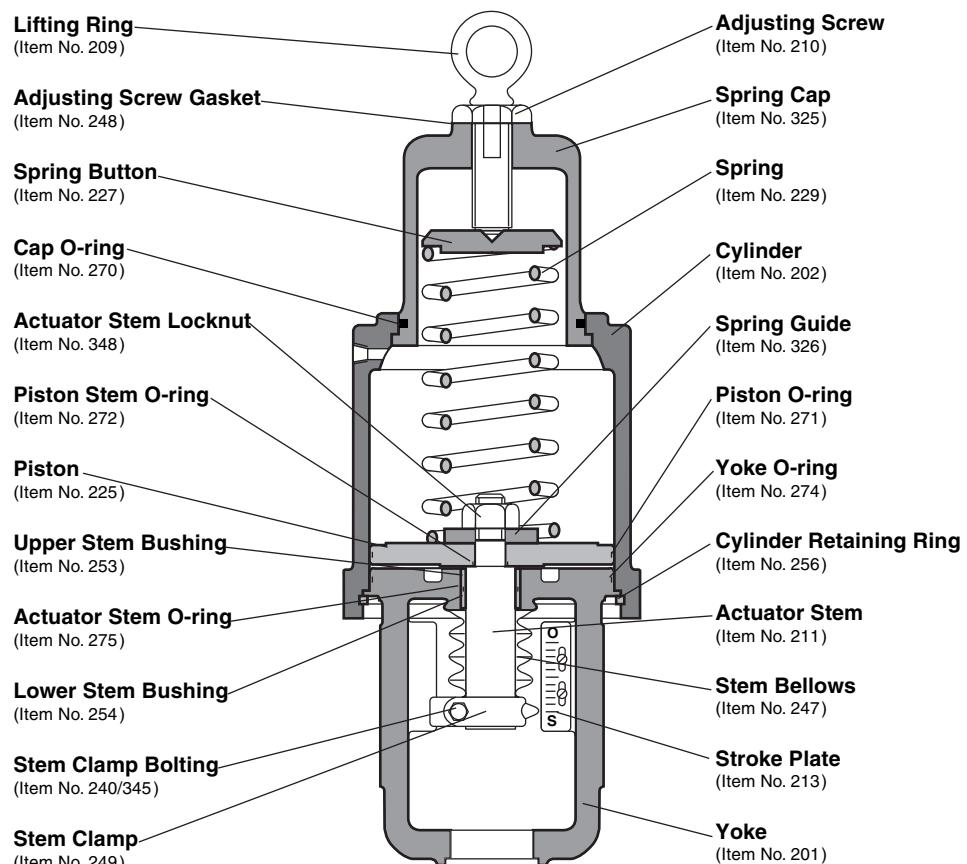

Figure 4 : Cap-Spring Cylinder Actuator
6. In case of heavyduty spring designs that have a spring cap (see Figure 4), the spring cap and cap O-ring needs to be removed from the cylinder.
7. In heavy-duty spring designs using spring caps, the cap O-ring should be replaced and the spring cap needs to be installed in the cylinder (Refer Figure 4).